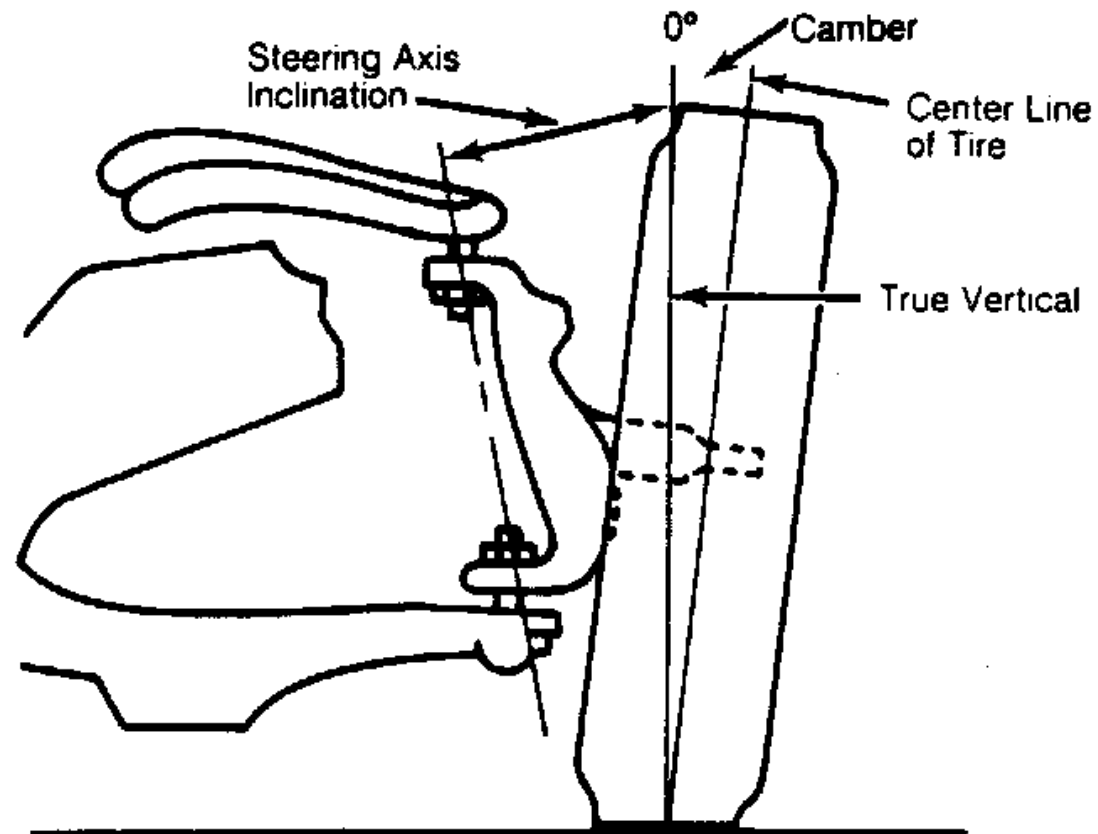

Fig. 6: Checking Steering Axis Inclination
1. Steering axis inclination is a check for bent or damaged parts, and not a service adjustment. Vehicle must be level and camber should be properly adjusted. See Fig. 6.